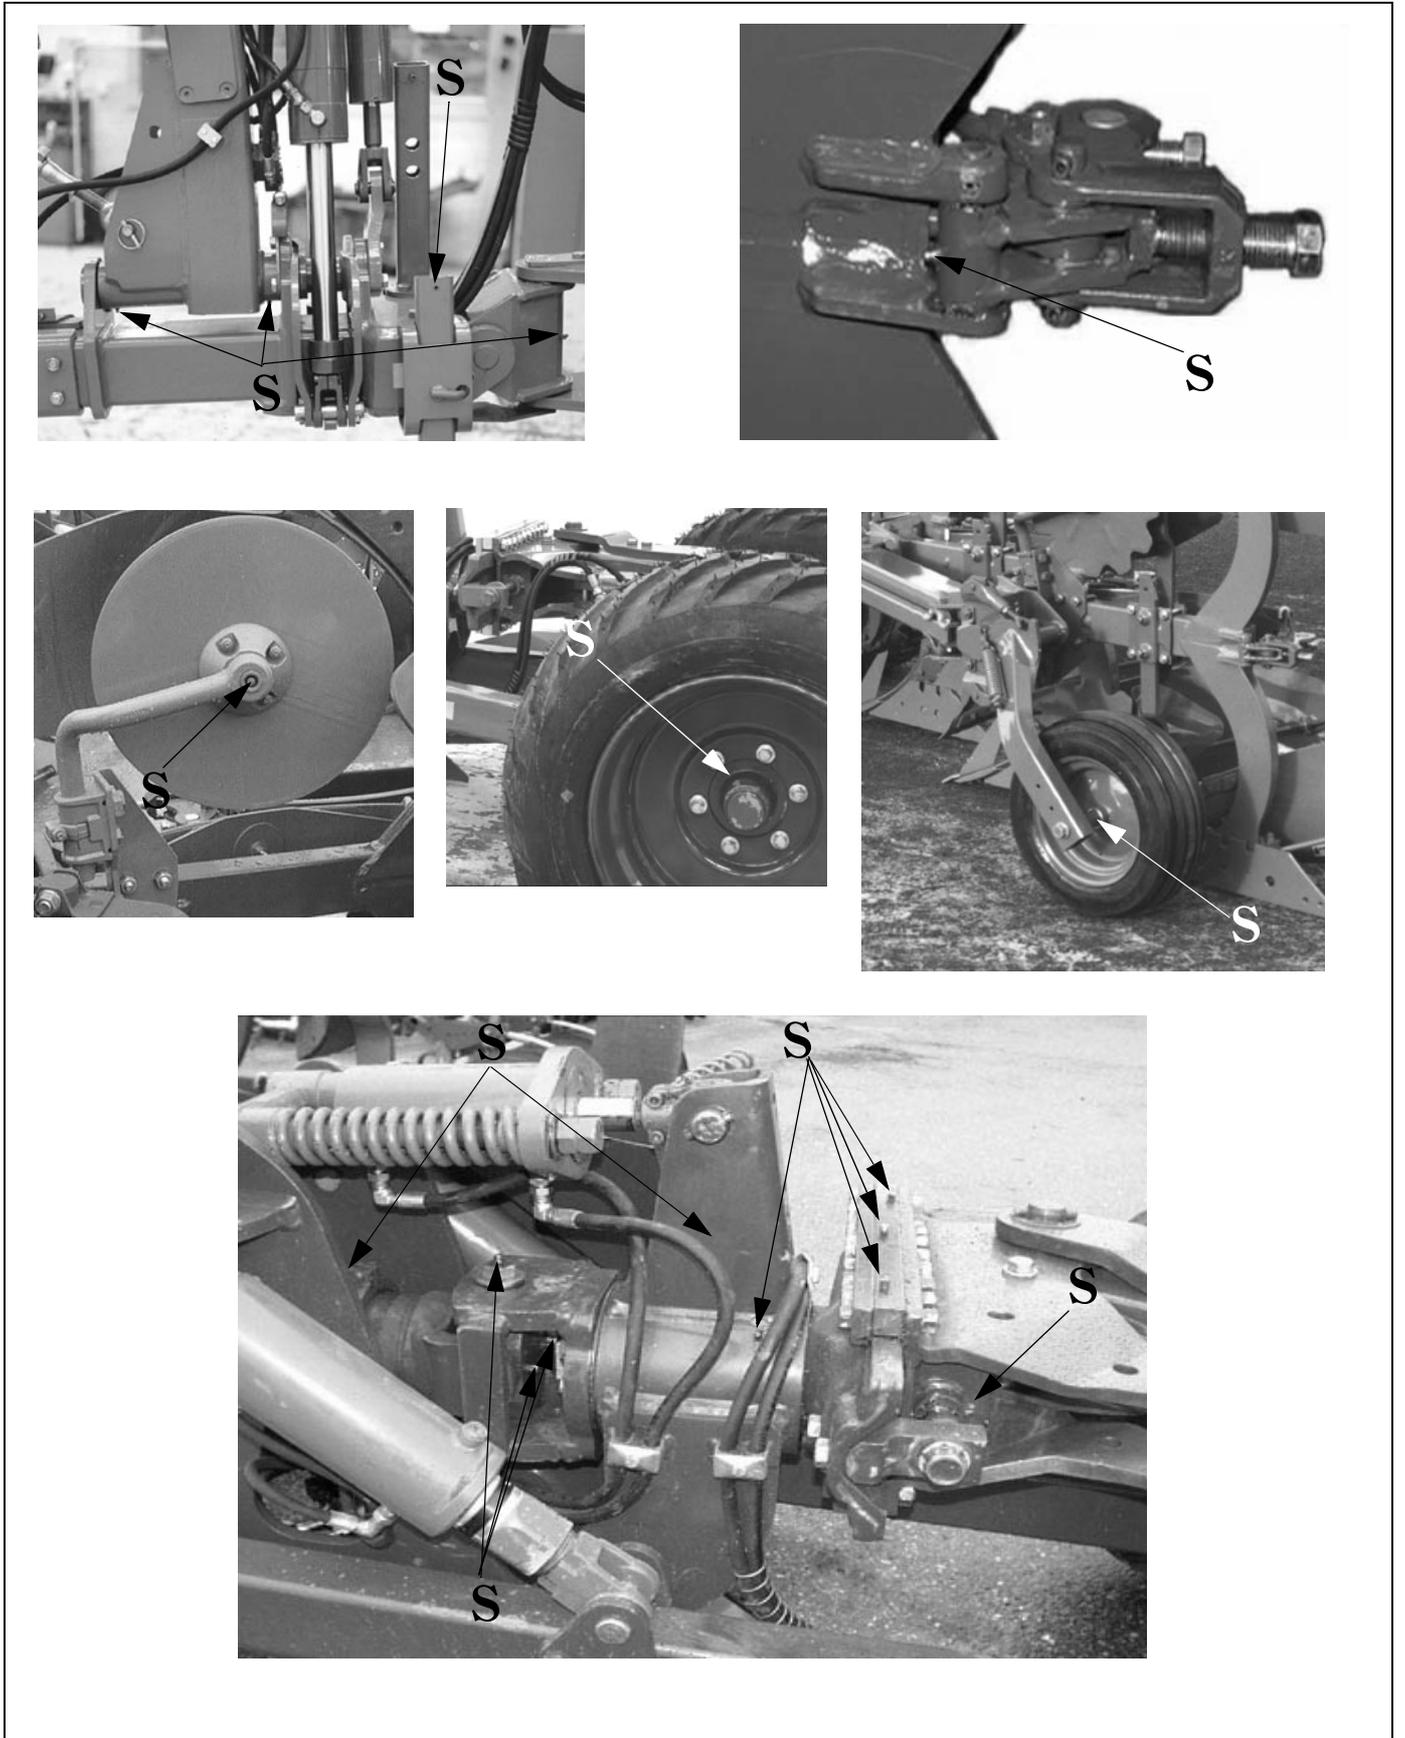
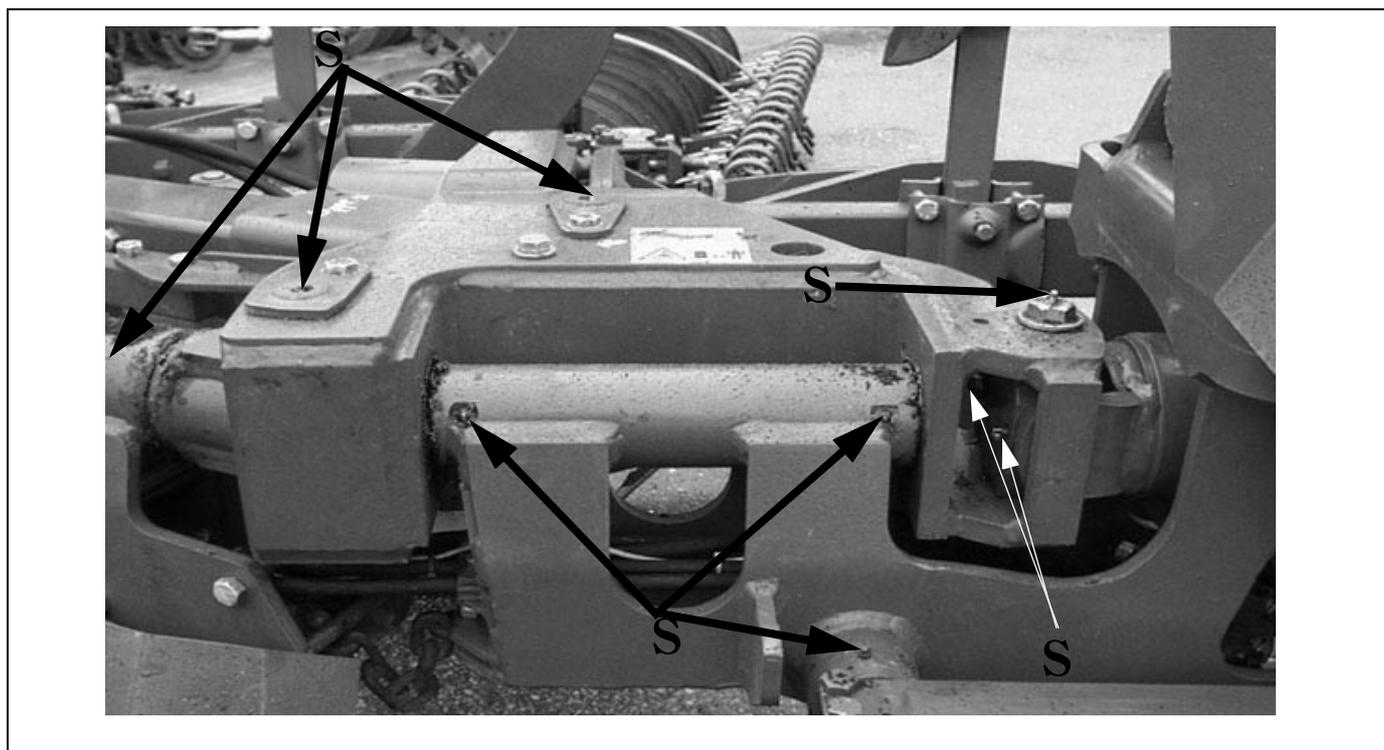

Fig. 45
Fig. 46
The lubrication points (S) is shown in fig. 45 and fig. 46. During the ploughing season the plough should be lubricated daily to prevent the ingress of water and dirt to the bearings and moving parts. **NB!** It is very important to lubricate well after power washing. All nipples should be lubricated after being washed. When ploughing has been completed, the plough must be cleaned and lubricated with Tectyl or acid free grease.